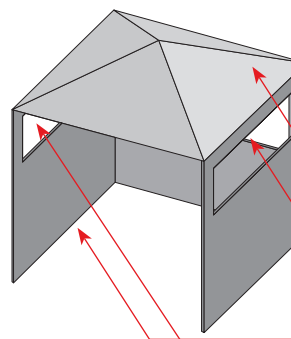

Fig. 4
- An appliance is considered to be outdoors if installed with shelter no more inclusive than within a partial enclosure that includes an overhead cover and three sidewalls, as long as 30% or more of the horizontal periphery of the enclosure is permanently open. **(Fig 4 & Fig 5)**